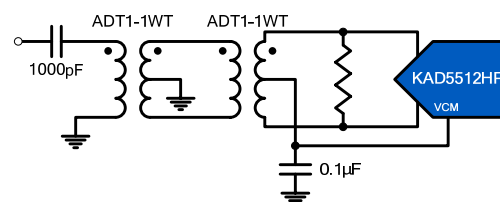

Figure 31. Transformer Input for General Purpose Applications
Best performance is obtained when the analog inputs are driven differentially. The common mode output voltage, VCM, should be used to properly bias the inputs as shown in Figures 31 through 33. An RF transformer will give the best noise and distortion performance for wideband and/or high intermediate frequency (IF) inputs. Two different transformer input schemes are shown in Figures 31 and 32.